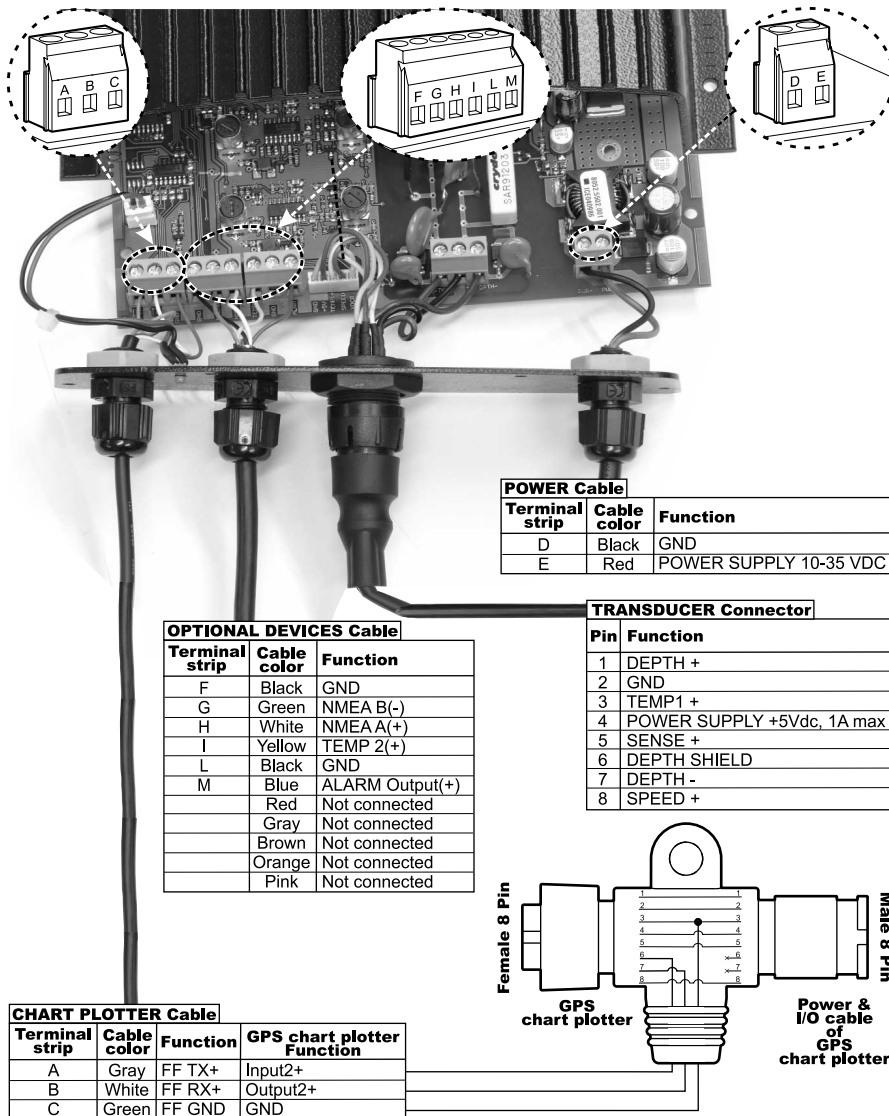

Figure 5.1 - FF520 Internal connections
- Reconnect the cables to the PCB (see the Figure 5.1 for reference).